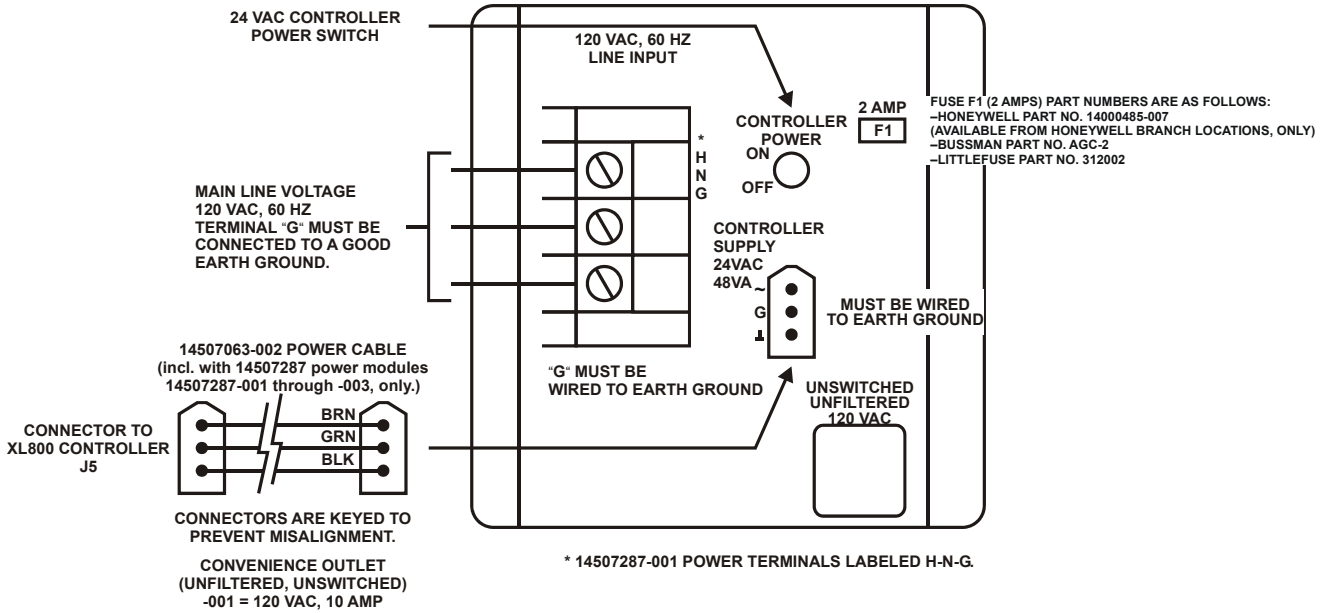

Fig. 5. Typical 14507287-001 Power Module wiring
2. Connect line voltage to Terminals H and N of the 14507287 Power Module. Connect a good earth ground to Terminal G of the Power Module. Fig. 5 through Fig. 7 show typical power wiring.